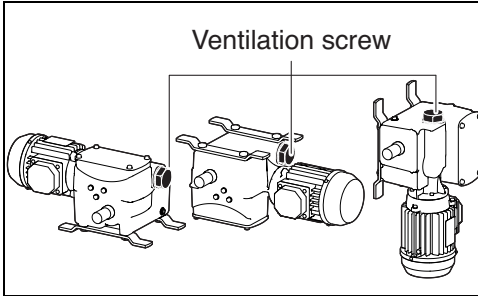

Fig. 5
- To ensure the gear ventilation function, unscrew the M6 screws by 2 turns in accordance with Figures 5– 8 for the installation positions.